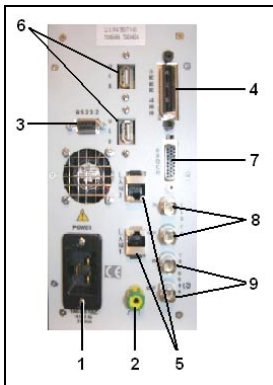

Figure 2 MPRT Rear Panel
5. **LAN1, LAN2 Ethernet 10/100BaseT** – The Ethernet 10/100BaseT ports typically operate very efficiently and effectively in real time. These ports are the fastest communication method within this unit. The setup will be similar to Microsoft® Windows where one may set the protocol. LAN1 is the PC connection port. This port provides the optimal method for downloading EMTP files, DFR streaming, and updating the unit's firmware as required. Note that MPRT units built before November 2007 have a 10BaseT interface. Units built after November 2007 have a 10/100BaseT port. Units built starting in October 2009 have the dual 10/100BaseT Ethernet ports as shown in Figure 2. LAN2 is the port for connecting to the IEC 61850 substation bus for use in testing IEC 61850 devices. See sections 2.2.3.7 and 6.2 for more descriptions.